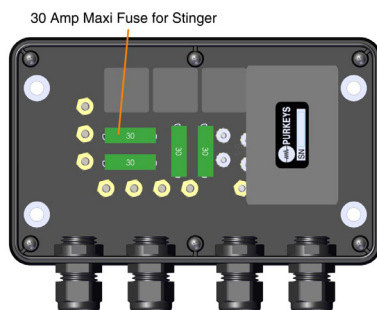

Figure 8
**Rapid Flashing Orange LED:** Blown Fuse on the stinger circuit. Replace the fuse (see Figure 8 for stinger fuse location).